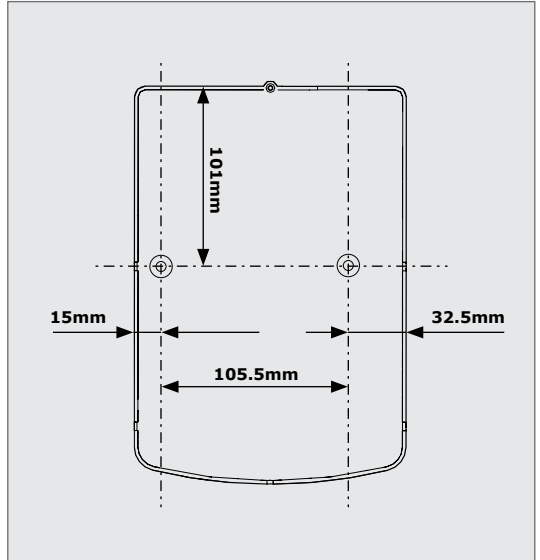

FIGURE 8
2. Mark the location of the two Control Box mounting screws using the template provided. Note the orientation of the template (Figure 8).